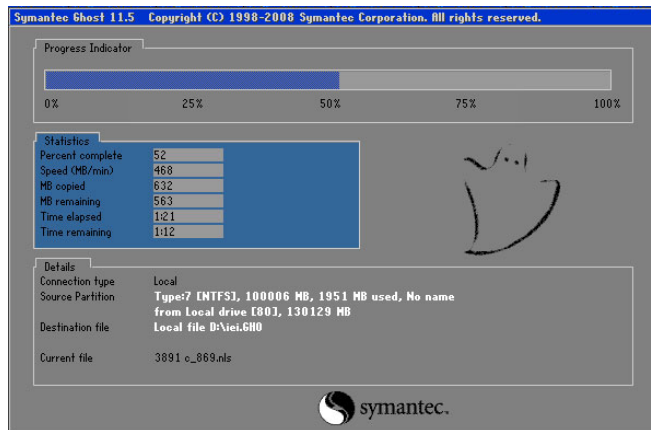

Figure C-27: Image Creation Complete
Step 7: The Symantec Ghost starts to create the factory default image (Figure C-27).